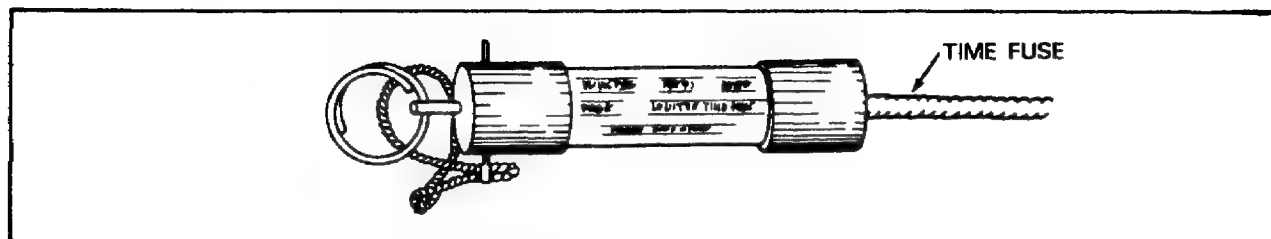

Figure 95. Igniter, Fuse, Weatherproof, M60.
**Igniter, Fuse, Weatherproof, M60.** The fuse igniter (Figure 95) is used to initiate time blasting fuse. It may be used in any weather, and even underwater. The igniter contains a firing mechanism with a pull ring, a fire pin, a spring, and a primer. It has a fuse holder on the forward end that provides a watertight seal when used to ignite time blasting fuse, M700. The fuse igniter M60 is 4 3/4 inches long and 3/4 inch in diameter. It is color coded olive drab with yellow markings.